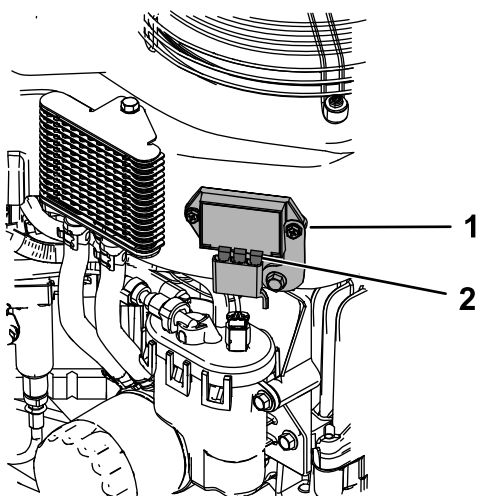

Figure 43
4. Lightly apply grease to the voltage regulator blades (Figure 43).